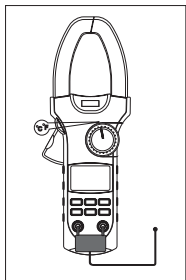

Figure 11
**I. Measuring Temperature** (UT208 Only, See Figure 11)